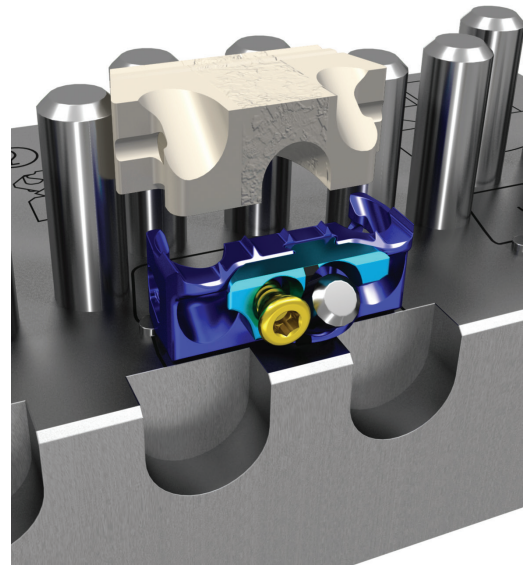

Figure 8
- Before connecting the rehydrated allograft to the plate, ensure that the notches for the lateral screws are facing upward. Place the allograft into the implant assembly block behind the plate between the four alignment pins (Figure 8).